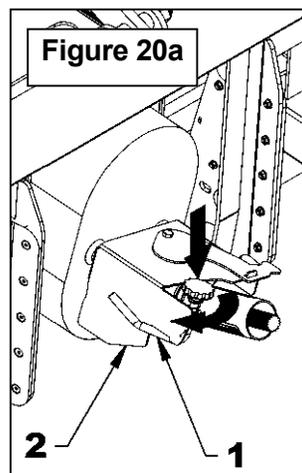

Figure 20a
CAUTION: In order to ensure that the driveline or other parts are not damaged, DO NOT WORK with the driveline placed on its support (see figure 20a).
6. **Figure 20a:** Remove the male driveline from its storage support. Secure the support rod (item 1) on the side of the PTO guard (item 2).